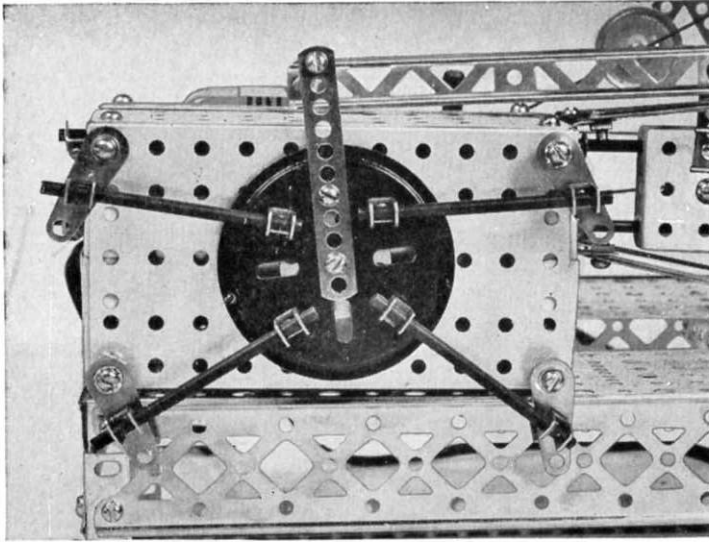
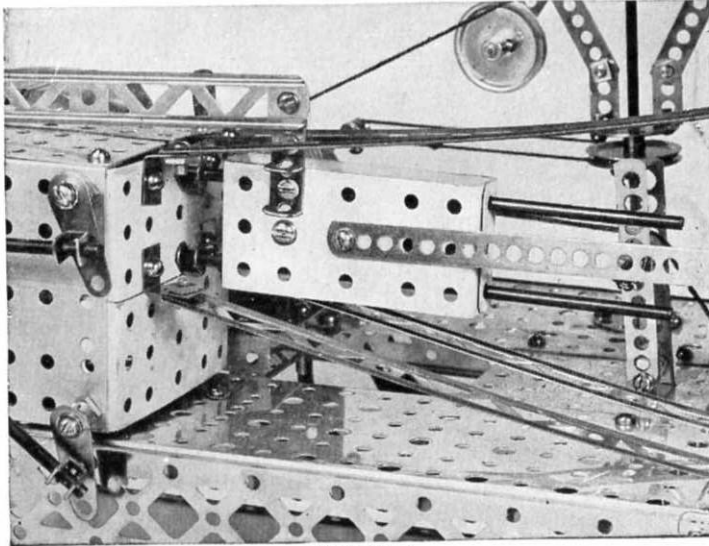

FIGURE 3
FIGURE 4
A replica of the steam cylinder with valve action is shown in Figure 3 and Figure 4. The steam cylinder is built with (MD)  $2\frac{1}{2}$ " x 5" base plates for sides and 2 (MF) 1" x 5" base plates on top. The ends are made with 2 (MC) 1" x  $2\frac{1}{2}$ " base plates. The box should be built separately with the valve mechanism fastened to it. The valve mechanism is a (BN) regular turret plate fastened to a (BT) pierced disc which is held to the side base plate with an S62  $\frac{7}{8}$ " x 8-32 screw so it is free to turn. Four (AA) eccentric cranks are fastened, one to each corner, of the side base plate with S62 screws. To the turret plate and eccentric cranks are fastened P37 collars and (AS)  $2\frac{7}{8}$ " axle rods—See Figure 3. A (BY) 11 hole fibre strip is fastened to the turret plate.
To the front end of the upper (MC) 1" x  $2\frac{1}{2}$ " base plates are fastened 4 (CH) right angles as shown in Figure 4.
The tower for the compressors, (T) boilers, is built with 4 (C) 10" girders on each side with a cross-bracing of 2 (B) 5" girders fastened to the 10" girders with (CH) right angles. From the middle holes on two tower legs are fastened 2 (C) 10" girders to the top two (CH) right angles on the steam cylinder. From the bottom two (CH) right angles are fastened (C) 10" girders to the base of rear two tower supports. See Figure 1 and Figure 4.